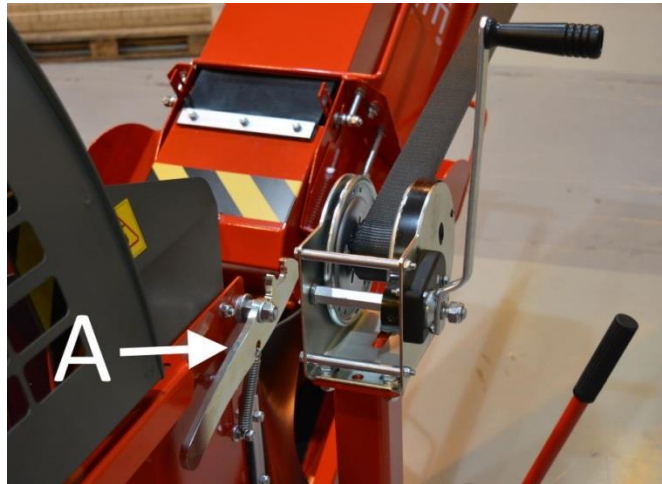

Figure 5.
7. Keep lock A (Figure 5) open and lower the out-feed conveyor using a winch to its lowest position.
5. Lift the conveyor with the winch until it locks into the raised position. Ensure that lock A (Figure 5) settles properly into place.